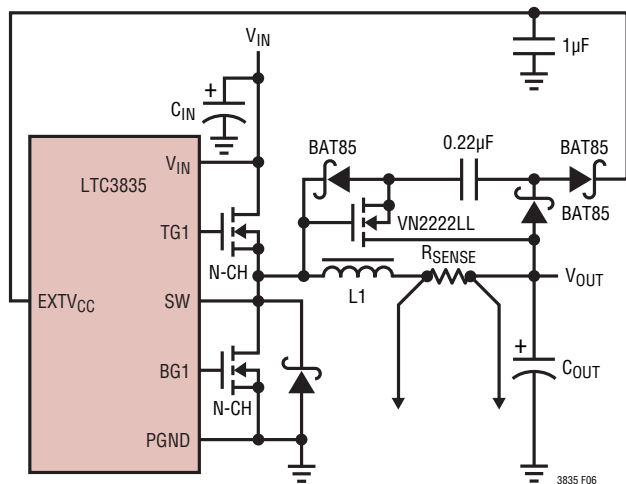

Figure 6. Capacitive Charge Pump for $EXTV_{CC}$
The optional Schottky diode D1 shown in Figure 6 conducts during the dead-time between the conduction of the two power MOSFETs. This prevents the body diode of the bottom MOSFET from turning on, storing charge during the dead-time and requiring a reverse recovery period that could cost as much as 3% in efficiency at high V_{IN} . A 1A to 3A Schottky is generally a good compromise for both regions of operation due to the relatively small average current. Larger diodes result in additional transition losses due to their larger junction capacitance.
4. $EXTV_{CC}$ Connected to an Output-Derived Boost Network. For 3.3V and other low voltage regulators, efficiency gains can still be realized by connecting $EXTV_{CC}$ to an output-derived voltage that has been boosted to greater than 4.7V. This can be done with the capacitive charge pump shown in Figure 6.